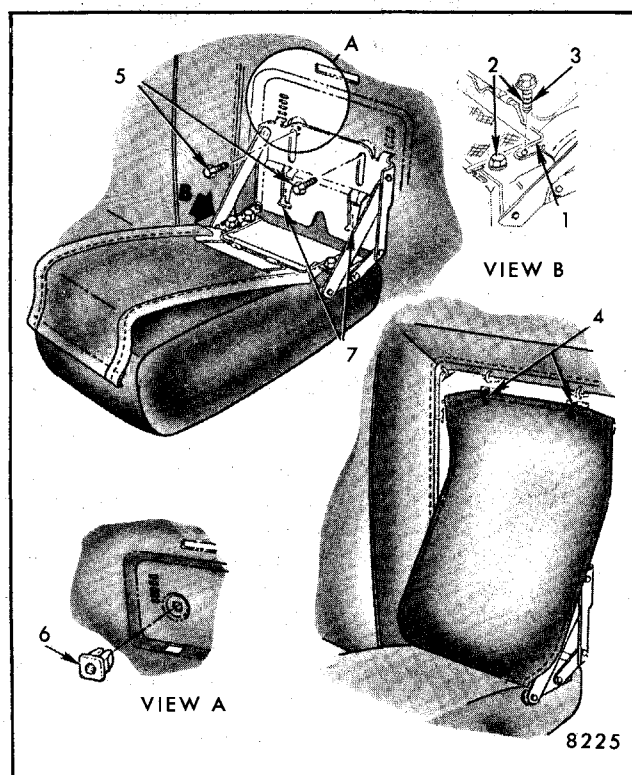

Fig. 9-57-Front Seat Back Center Armrest - Standard Full Width Seat Back - "A and X" Styles
Removal and Installation (Refer to Fig. 9-57)
4. To remove armrest and linkage assembly, first detach lower end of curtain from armrest as described in step 1. Remove linkage attaching screws (see "5" in Fig. 9-57); then disengage upper tabs of linkage from armrest support and lift armrest and linkage assembly upward to disengage lower tabs from slots in support and remove assembly from seat.